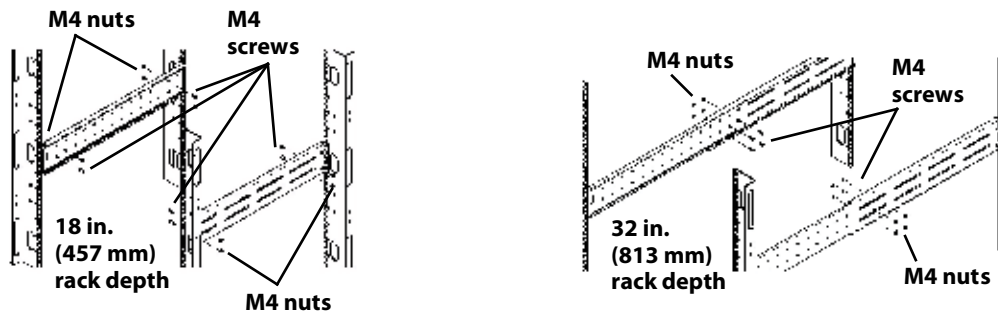

Figure 14: Fastening the rear member and front member together
- Get eight M4 screws and eight M4 nuts from the hardware pack in this kit. Each nut has a locking nylon insert that begins gripping the screw when it is halfway tight. Make sure to tighten the nut and screw completely to ensure locking action. Fasten the rear member and the front member together using four screws and four nuts per bracket assembly as shown in Figure 14. For maximum support, insert fasteners for each bracket assembly as far apart as possible, depending on rack depth, while still joining both members (see Figure 14). Check alignment of bracket assemblies and **TIGHTEN ALL SCREWS** from Steps 2 and 3.